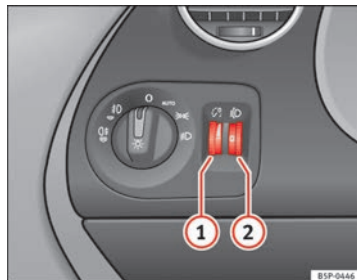

Fig. 74 Dash panel: regulation for instrument and switch lighting and headlight range control
When the headlights are switched on, the brightness of the instruments and switch lighting can be regulated to suit your requirements by turning the thumb wheel ⇒ Fig. 74 ①.